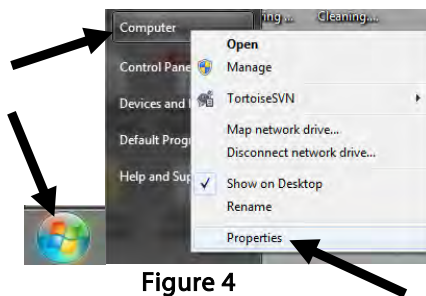

Figure 4
7. Depending on computer operating system, install either the standard 32-bit (Boujour) or 64 bit (Bonjour64) installer by clicking on the file and following the prompts. Once the file is selected skip to step 9. If unsure of operating system click on Windows button in the lower far left of the screen and right click on computer and then properties (see Figure 4).